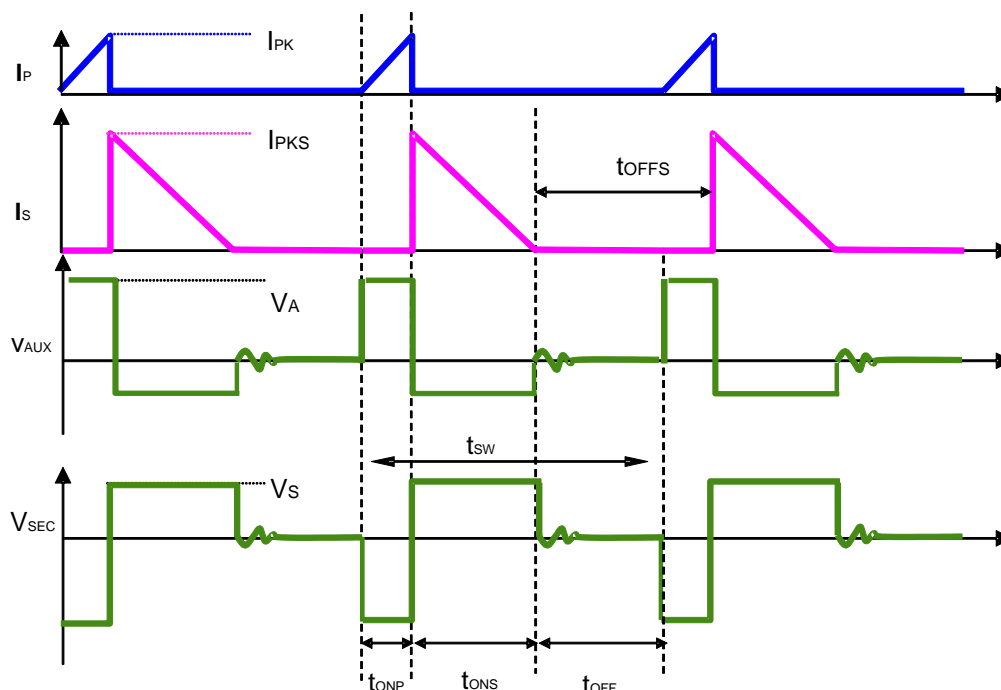

Fig.4 Typical Waveforms
Fig.4 shows the typical waveforms which demonstrate the basic operating principle of μP6326L5M application. And the parameters are defined as following.
11.4 Constant Current (CC) Operation
The μP6326L5M can work in constant-current (CC) mode. Figure 4 shows the secondary current waveforms. In CC operation mode, the CC control loop of μP6326L5M will keep a fixed proportion between D1 on-time t_{ONS} and D1 off-time t_{OFFS} . The fixed proportion is